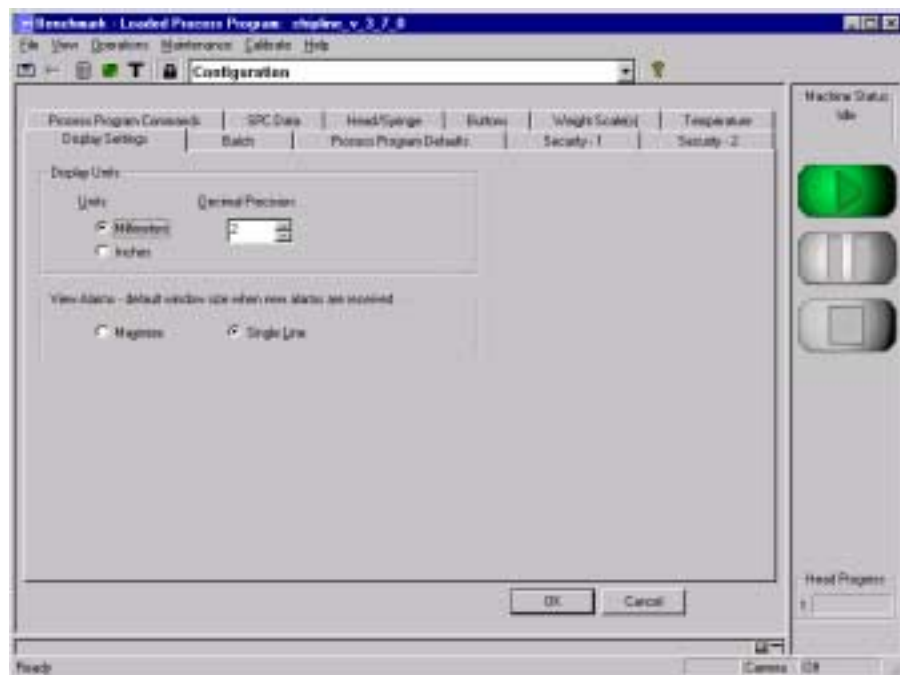

Figure 8-9
1. Select **View > Configuration** and select the **Display Settings** tab. The **Configuration** view appears. See Figure 8-9.